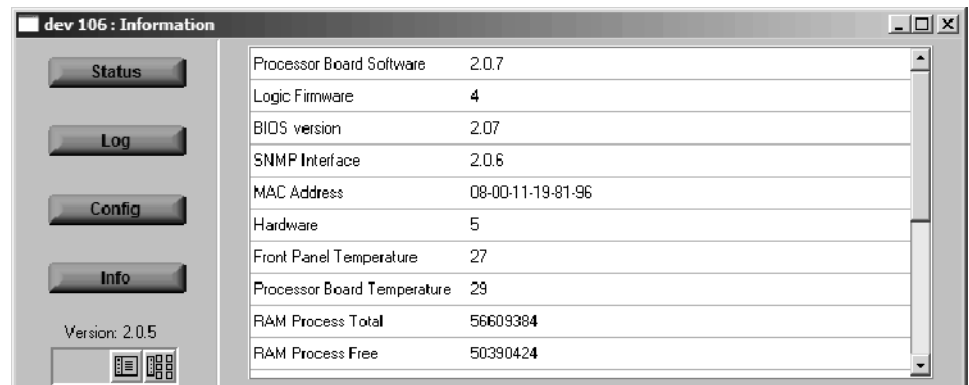
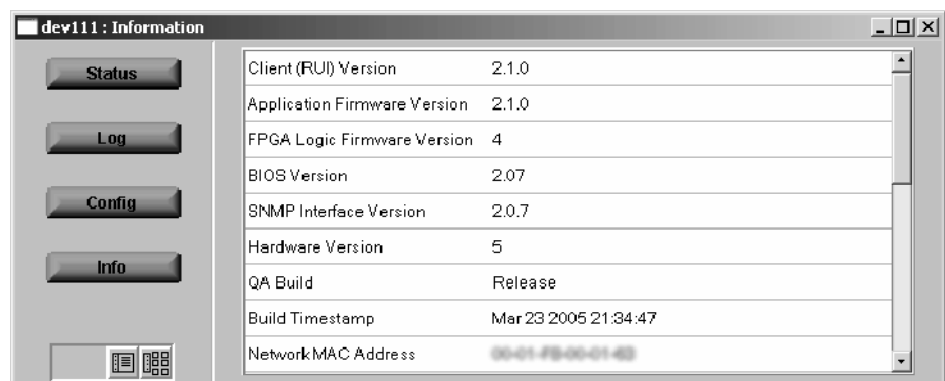

Figure 3: Device view - Information
Figure 14: Device view - Information
7. In the Device view, select Info to display the Device Information view (see Figure 3).
NOTE. The Device Information view details the software and hardware build state of the MTM400. The values shown in Figure 3 will differ from the values shown for your instrument.
2. In the Device view, select Info to display the Device Information view as shown in Figure 14. The view details the software and hardware build state of the MTM400. (The values shown in Figure 14 may differ from the values shown on your display.)
NOTE. With firmware version 2.1.0, the information shown in the Device Information view (see Figure 14) changed from the previous firmware version. The Device Information view for firmware version 2.0.7 and earlier is shown in Figure 3 on page 9.